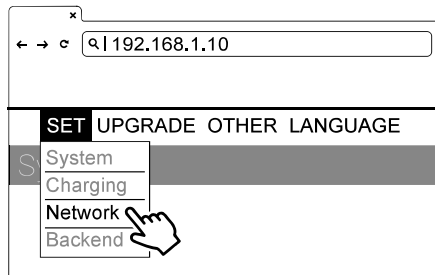

Figure 33. SET Menu
- 1) Select Network. See figure 33.